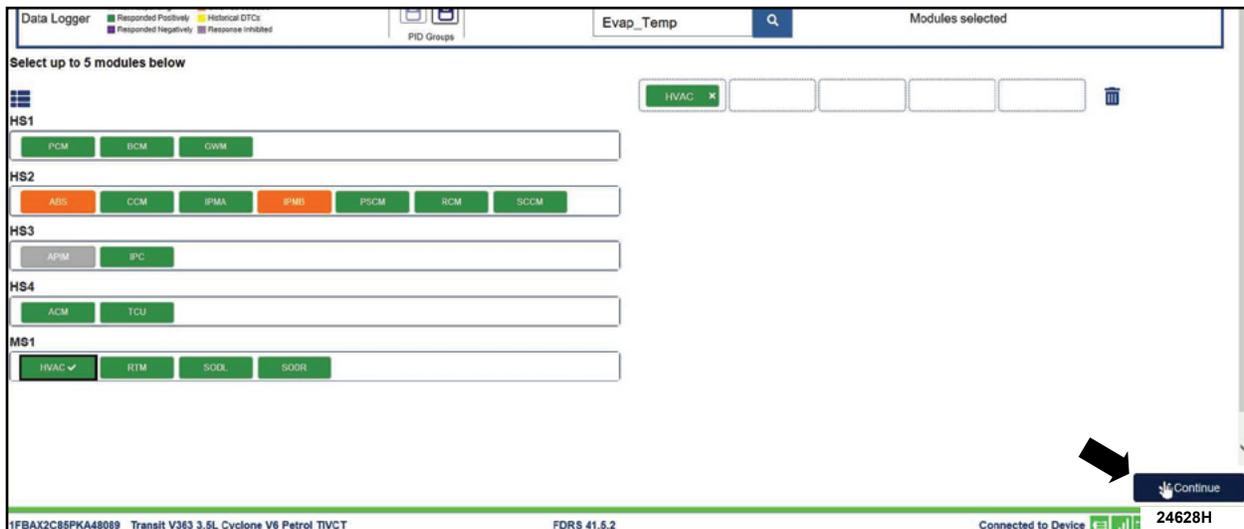

FIGURE 10
20. Select **CONTINUE**. See Figure 10.